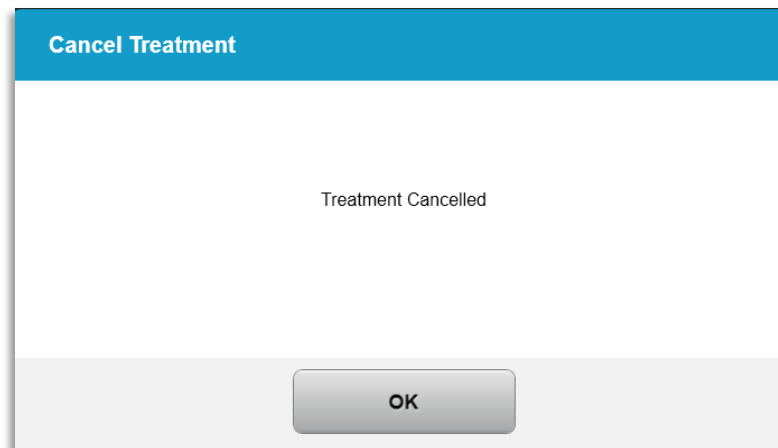

Figure 3-29. Treatment Cancelled Confirmation
- If treatment cancellation was confirmed, an onscreen “Treatment Cancelled” message will appear as shown in Figure 3-29.